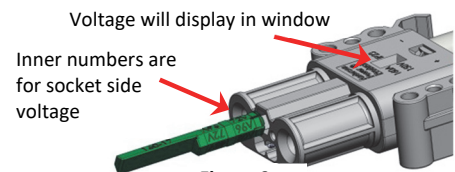

Figure 9
- c. Once the front of the pin is equal with the front of the housing, use a screwdriver to push the pin further until it snaps in place. (Figure 9)